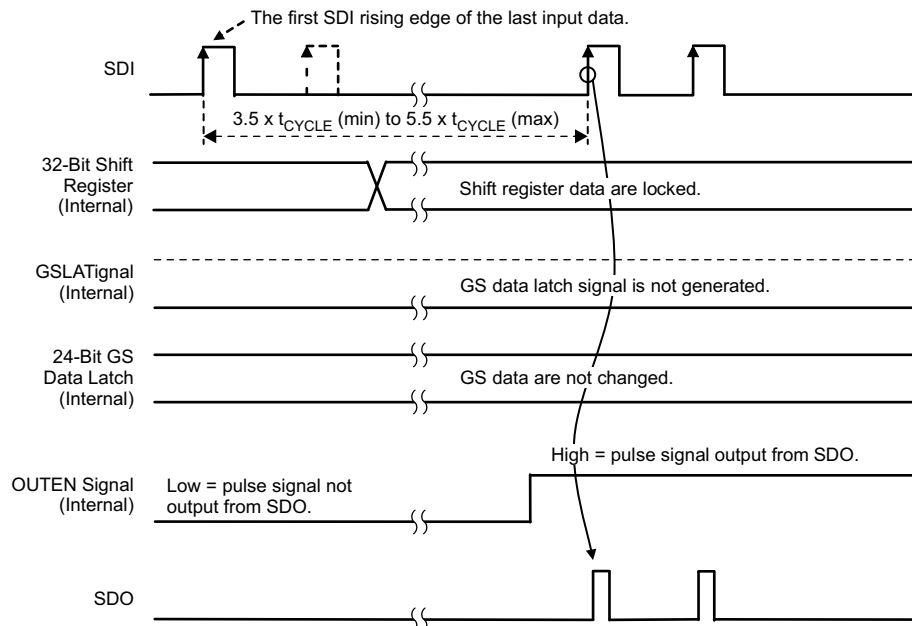

Figure 18. End of Sequence (EOS)
One communication cycle end of sequence (EOS) must be input after the 32-bit data are written because the TLC59731 does not count the number of input data. When SDI is held low for the EOS hold time (t_{H0}), the 32-bit shift register values are locked and a buffered SDI signal is output from SDO to transfer GS data to the next device. Figure 18 shows the EOS timing.
3. Execute one communication cycle EOS (refer to Figure 18) for the first device.